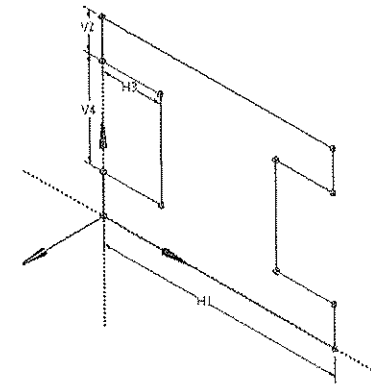

Figure 3-32 The Isometric view of the sketch
- 1. Click on the ISO ball placed at the bottom right in the **Graphics** window; the view is changed to Isometric, as shown in Figure 3-32.